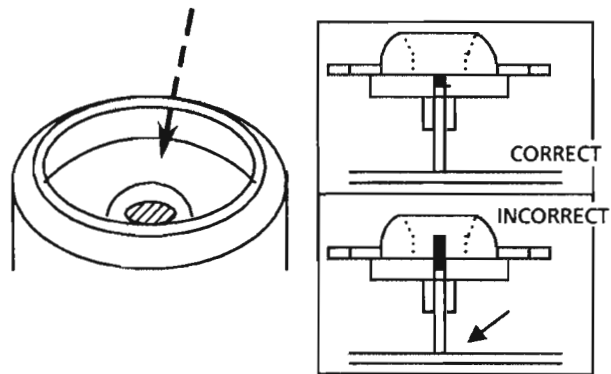

Fig 15
- (4) After inserting the turntable, bond the motor shaft and turntable together (at the section marked by an arrow in fig 15 on the left below).
- (5) Use "LOCKTITE" #460 bonding agent, and apply as little as possible. Take care not to allow any excess bonding agent to get onto the turntable. Be extremely careful not to allow bonding agent to adhere to the motor bearings (the section marked by an allow in fig 15 on the right).